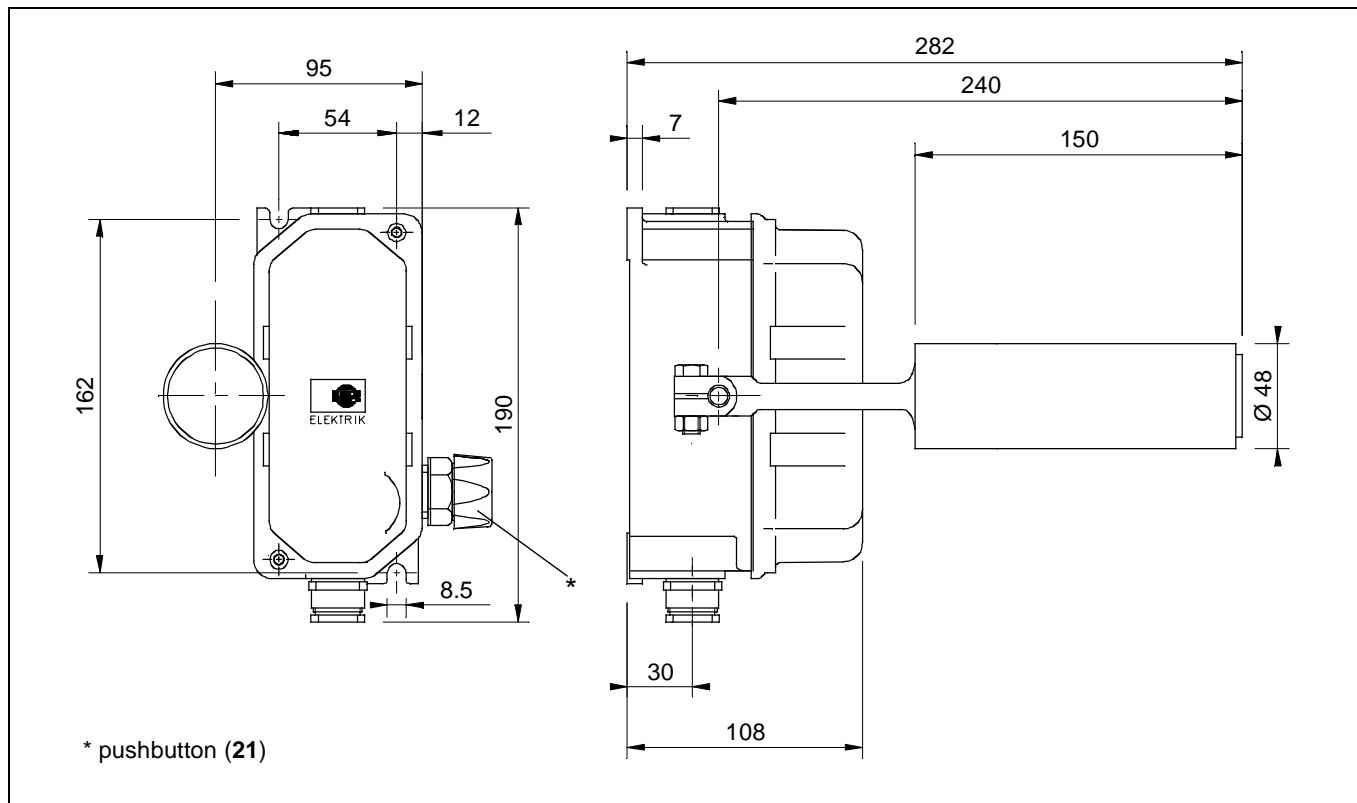

Fig. 4-1: Dimensions of HES (in mm)
The belt misalignment switch of the type HES 019 has an additional pushbutton (21) (see Fig. 4-1, page 12). This pushbutton (21) allows electrical by-passing of the switch (7) that effects switching off the belt in case of actuation. Thus, it is possible to move the continuous flow conveyor during tip operation despite belt misalignment to carry out repair or centering work.
Mounting position	Preferably as shown in Fig. 4-1: Dimensions of HES (in mm)